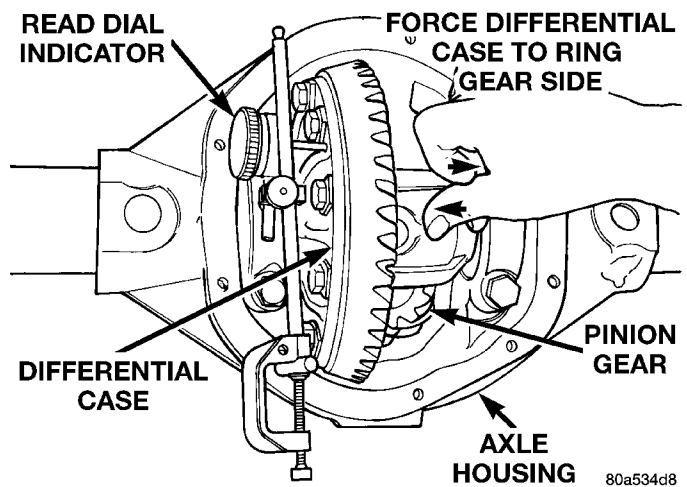

Fig. 75 Hold Differential Case and Read Dial Indicator
(23) Push and hold differential case to ring gear side of the axle housing (Fig. 75).
(24) Record dial indicator reading (Fig. 75).
(25) Subtract 0.002 in. (0.05 mm) from the dial indicator reading to compensate for backlash between ring and pinion gears. This total is the thickness shim required to achieve proper backlash.
(26) Subtract the backlash shim thickness from the total preload shim thickness. The remainder is the shim thickness required on the pinion side of the axle housing.
(27) Rotate dial indicator out of the way on guide stud.
(28) Remove differential case and dummy bearings from axle housing.
(29) Install side bearing shims on differential case hubs.